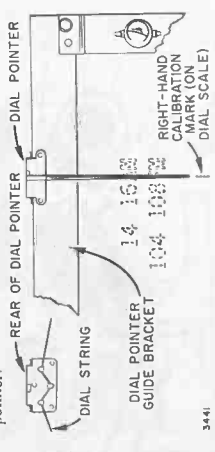

Figure 22. Dial Pointer Setting.
5. With AM tuning gang fully open, place dial pointer on dial pointer guide bracket. Move dial pointer to line-up with the right hand calibration mark (below "AM" and "FM" on right hand side of dial scale—see figure 22). See figure 22 for method of inserting dial string on dial pointer.